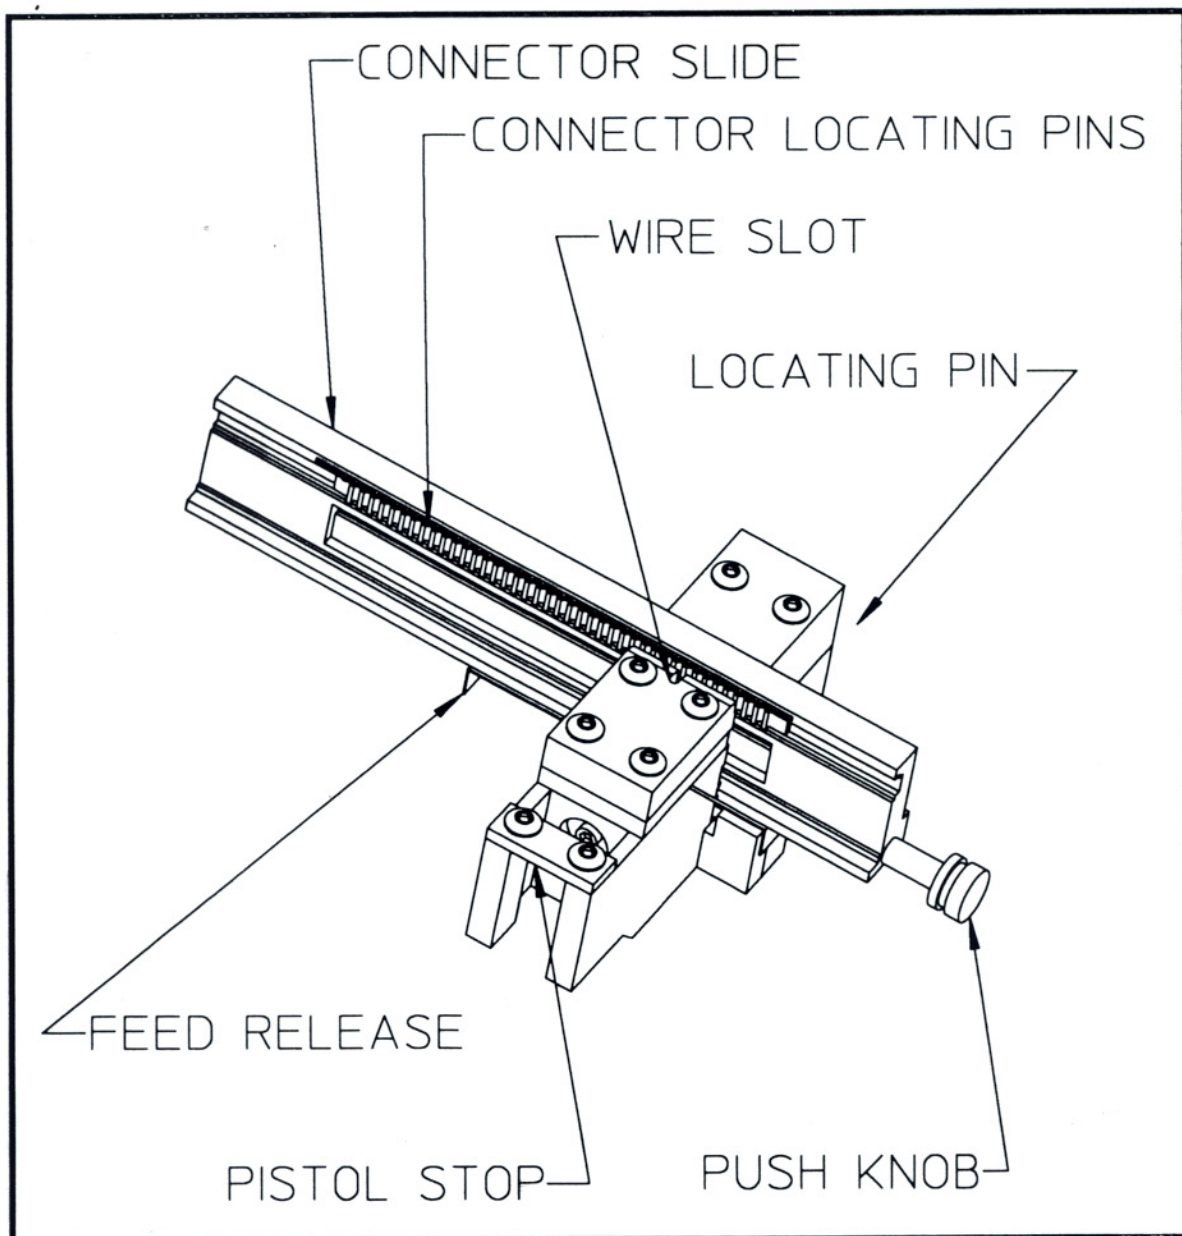

Fig. 1
1. Push the feed release all the way to the right (See Fig. 1 & 6). This unlocks the connector slide.